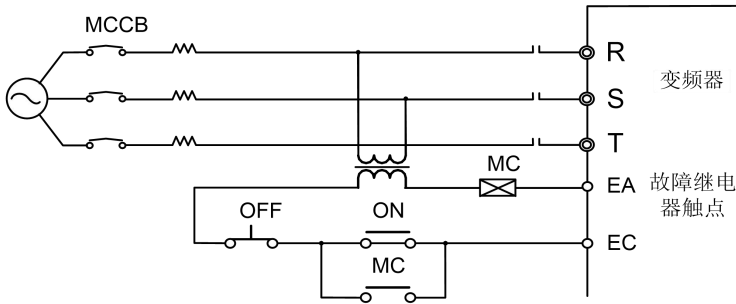

Fig. 3-4 Connection of Input Circuit Breaker
- When the MCCB is used with multiple inverters or other devices, connect the protection output relay contact of the inverter in series to the power contactor coil, as shown in Fig.3-4,
Connect the electromagnetic contactor that matches the power of the inverter, as shown in Fig. 3-4.